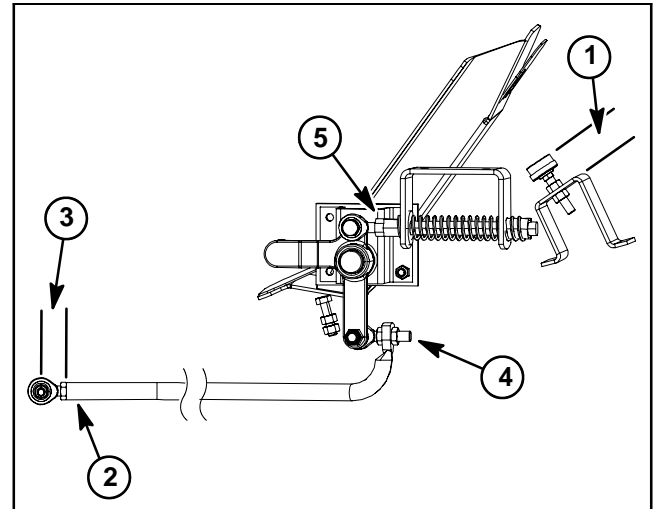

Figure 56
1. Traction pedal stop should be 1.500" (38 mm) above platform bracket (item 1 in Fig. 56). If necessary, loosen jam nuts and adjust stop location. Make sure that both jam nuts are tightened to secure adjustment.
2. On traction pump end of traction rod, rod end should be installed so that distance from end of traction rod to center of rod end is 1.140" (29 mm) (item 3 in Fig. 56). Tighten jam nut to secure rod end to traction rod.
3. On traction lever end of traction rod (item 4 in Fig. 56), jam nuts should position traction rod so traction pedal remains in the neutral detent position and is at an approximate 56° angle. Use a magnetic protractor to check pedal angle.
4. When traction pedal is released from either forward or reverse, pedal should return to the neutral position and wheels should stop rotating. If necessary, adjust spring shaft (item 5 in Fig. 56) until neutral operation is correct.